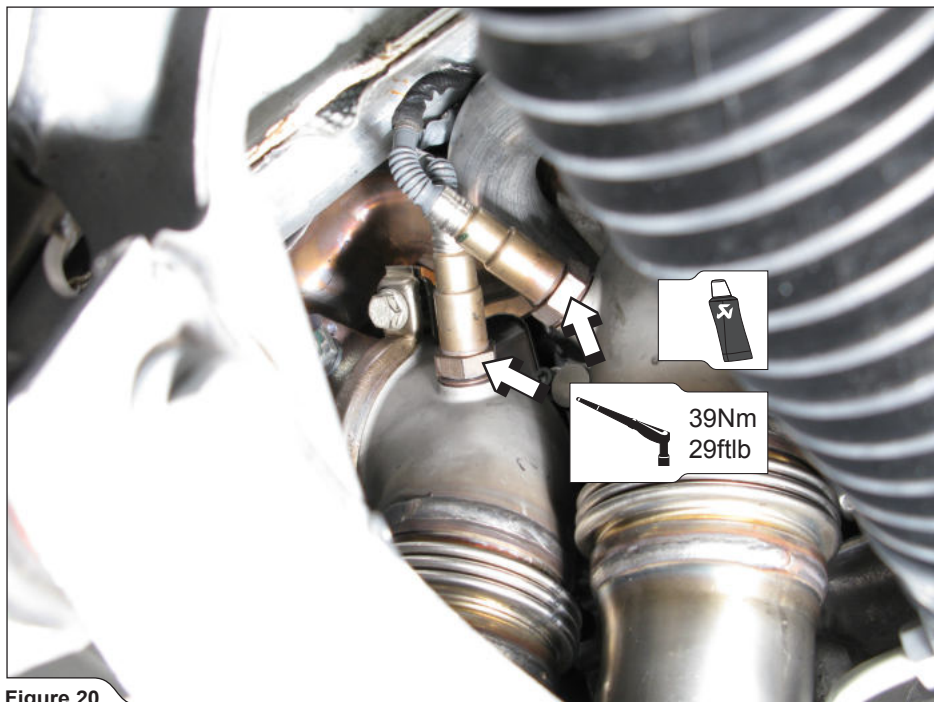

Figure 20
4. **For Optional Down Pipes:** install the front lambda sensors into the Down Pipes (**Figure 20**).